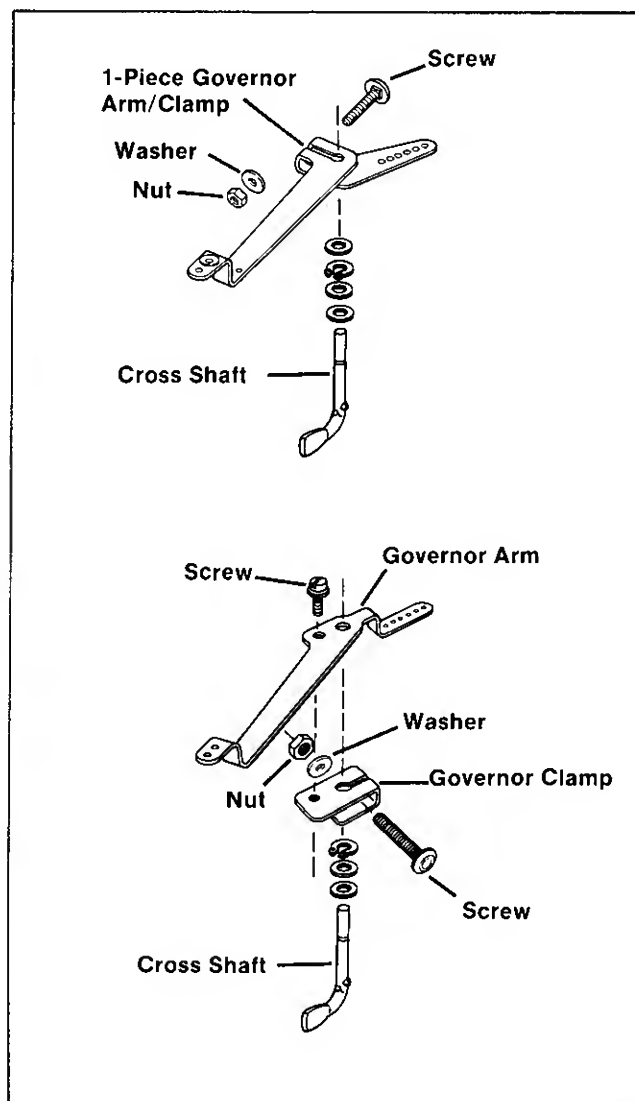

Figure 8-40. Installing Governor Arm
5. Install governor arm to governor cross shaft. See Figure 8-40 for the type of arm used. Do not fully tighten nut until governor arm is adjusted (step 6).